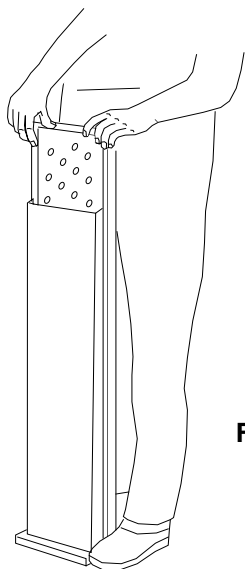

Figure 4-17.
- g. Replace the outer plate by placing your hands flat on the top of the plate and pushing down. Keep your fingers clear so you won't pinch them. Refer to Figure 4-17.